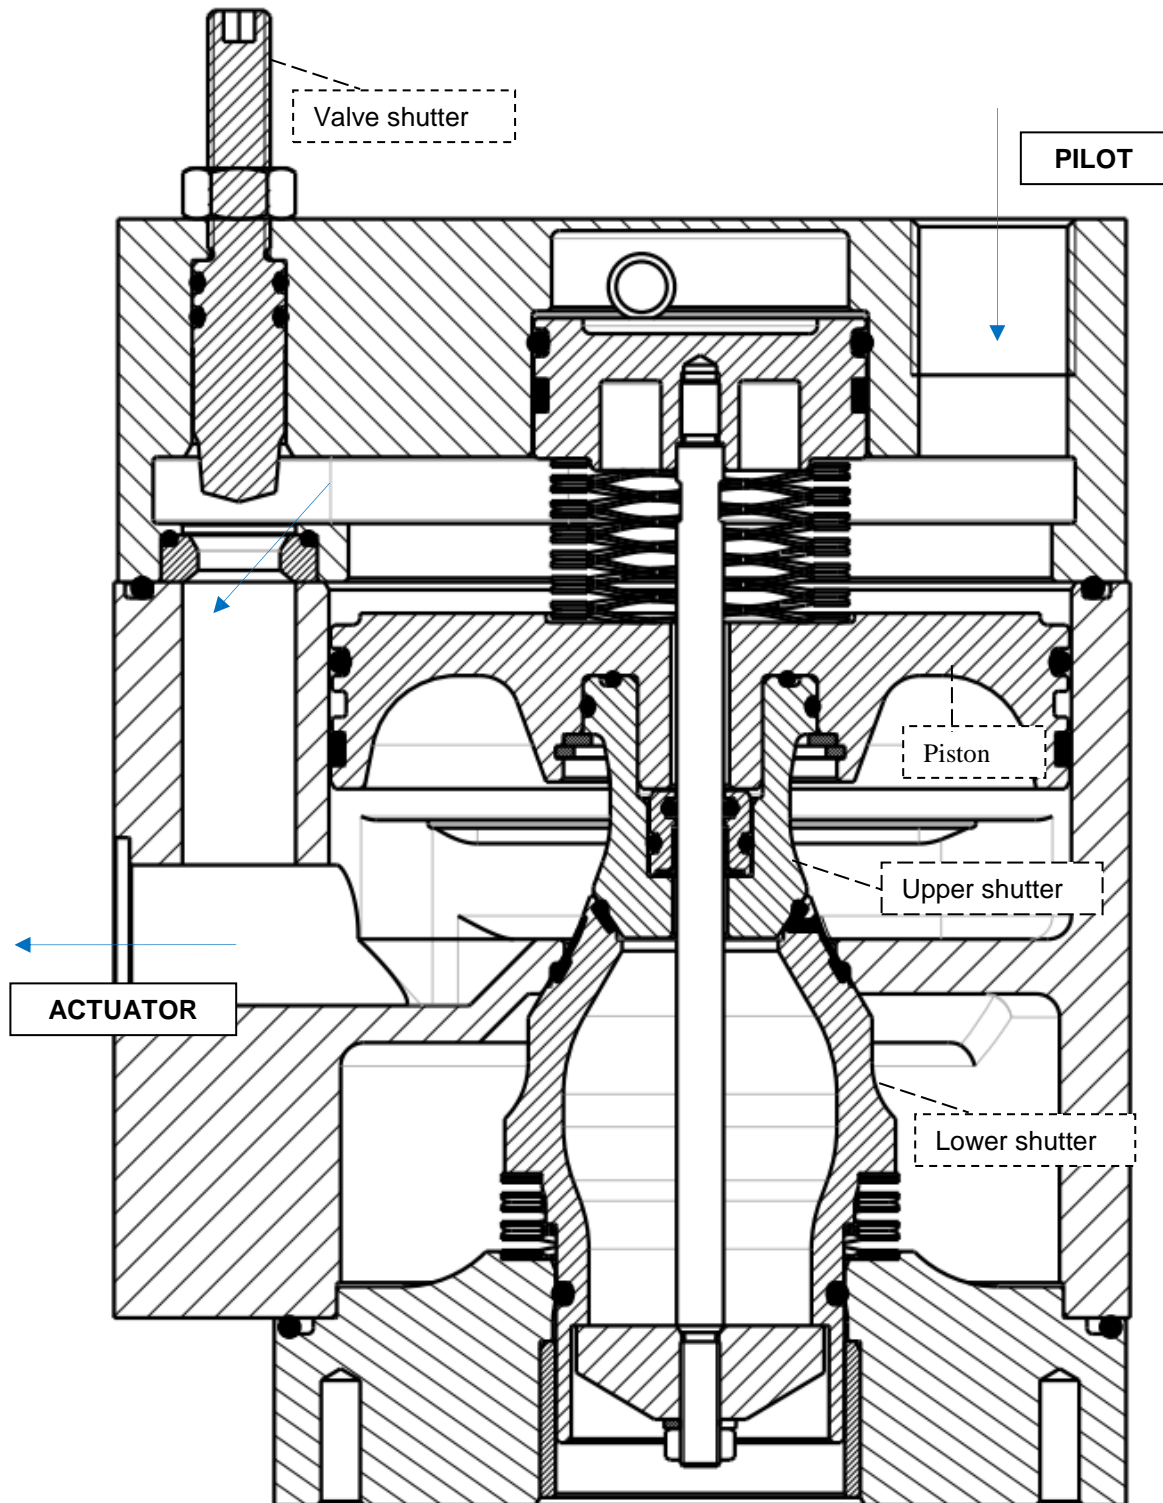
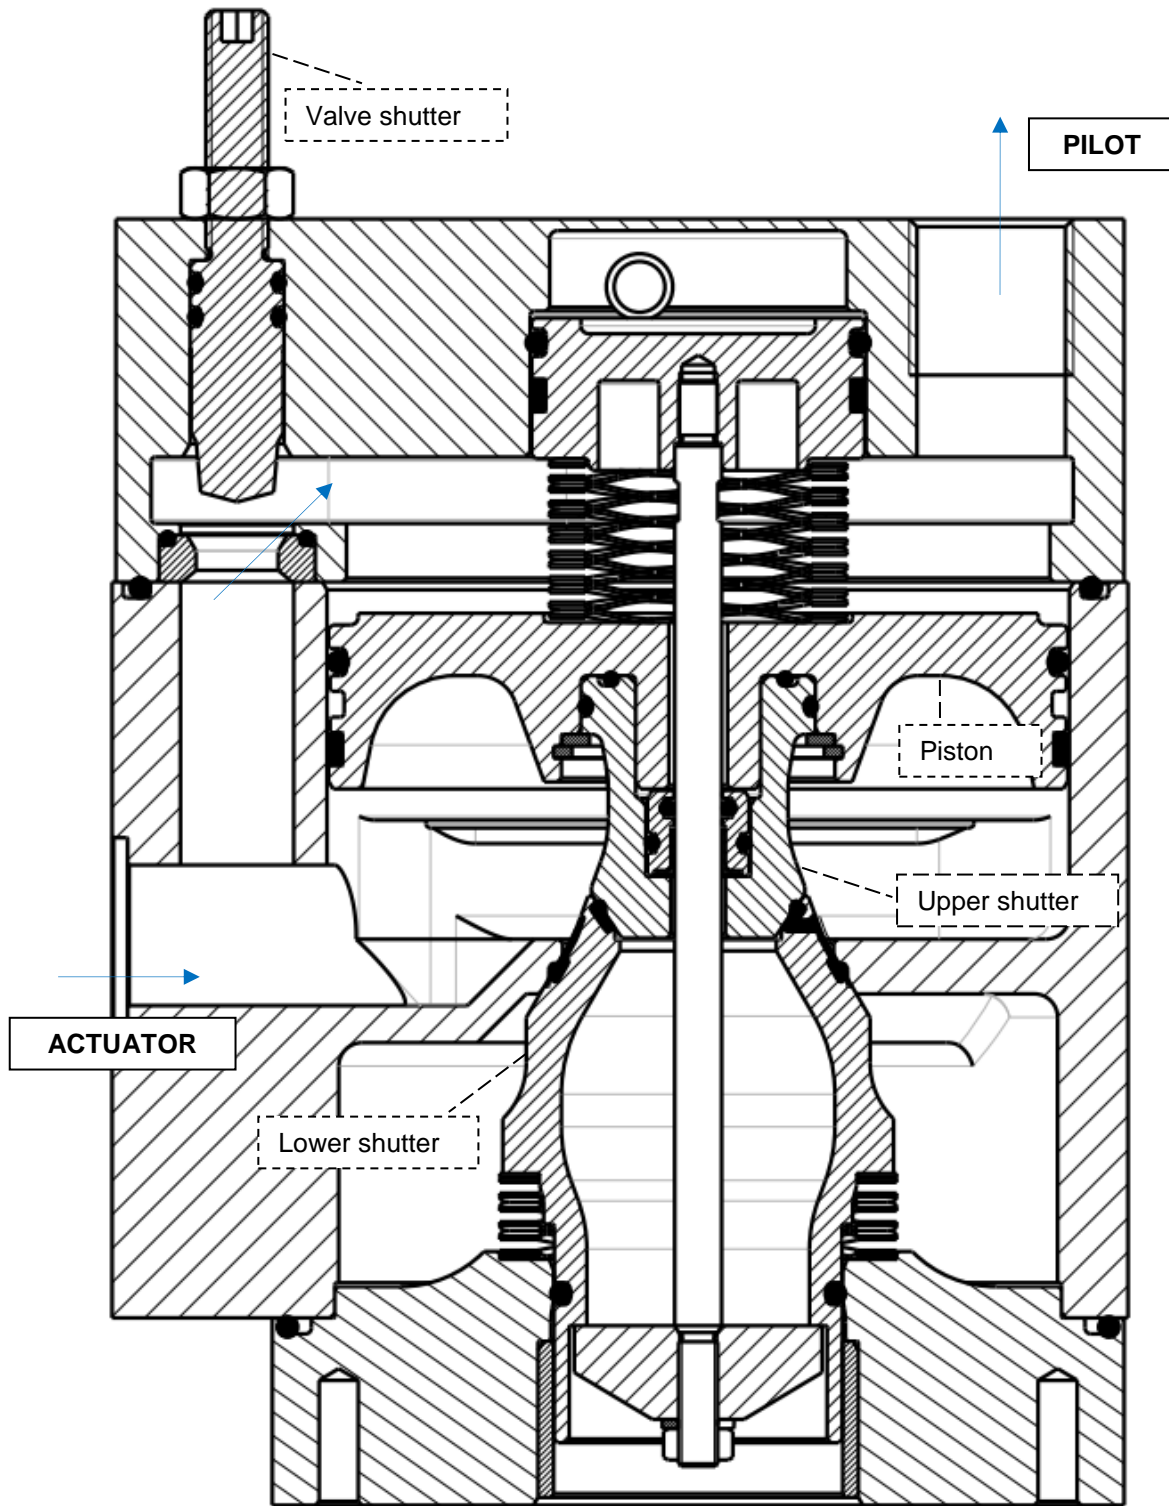

Figure 4 – charge setup: stand-by mode
Figure 7 – discharge setup: stand-by mode
Big Volume Booster BV has 2 main setups: charge (figure 4, 5, 6) and discharge (figure 7, 8, 9). The valve shutter may create a pressure drop depending on its adjustment and the working fluid flow rate.
- a) if the flow rate is lower than a threshold value depending on valve shutter adjustment, the valve shutter throttling can't generate a pressure drop between the two side of the piston and the working fluid goes to the actuator chamber. This case is called "stand-by mode" (figure 4);
- a) if the flow rate is lower than a threshold value depending on valve shutter adjustment, the valve shutter throttling can't generate a pressure drop between the two side of the piston and the working fluid goes to the pilot. This case is called "stand-by mode" (figure 7);